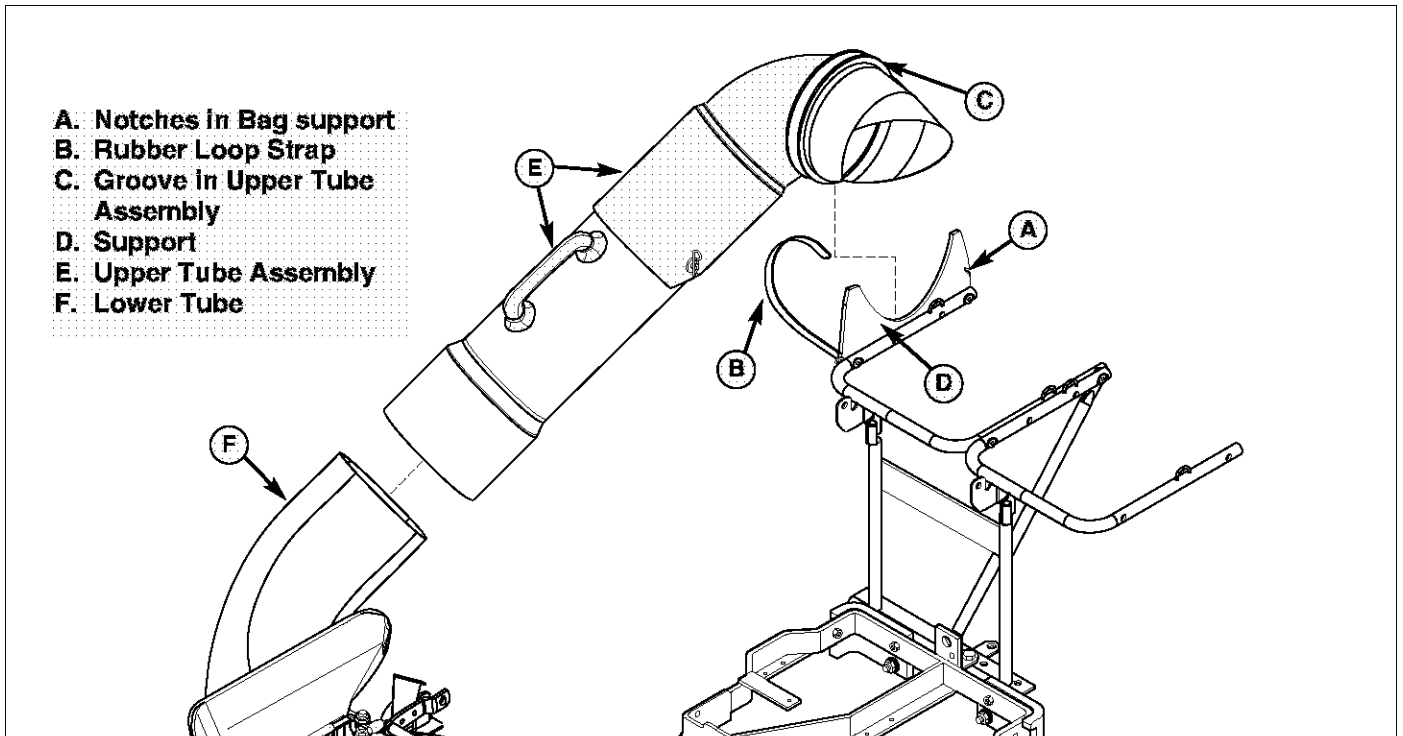

Figure 9. Upper Tube Assembly Installation (Hopper Top Not Shown for Clarity.)
1. Set upper tube assembly (E, Figures 9 & 10) into bag support (D) so that upper tube assembly groove (C) rests in support (D). Pull rubber loop strap (B) through groove and secure into notch (A).
2. Slide upper tube assembly (E, Figure 9) onto lower tube (F).